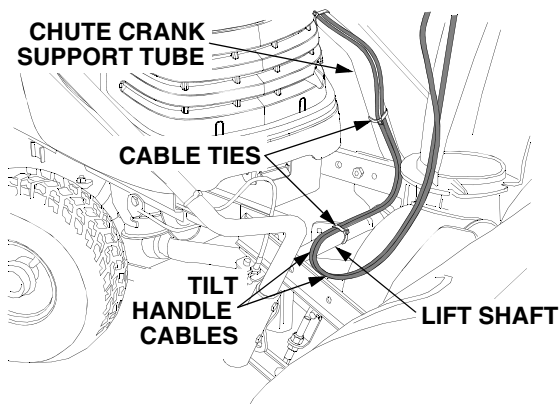

Figure 8
6. Route the tilt handle cables along the bend in the lower end of the chute crank support tube and secure to the support tube with a cable tie (11). See Figure 8.
7. Route the tilt handle cables across the top of the snow thrower lift shaft toward the right side of the snow thrower. **Loosely** fasten the cables to the lift shaft with a cable tie (11). *Do not fully tighten the cable tie.* Refer to Figure 8.